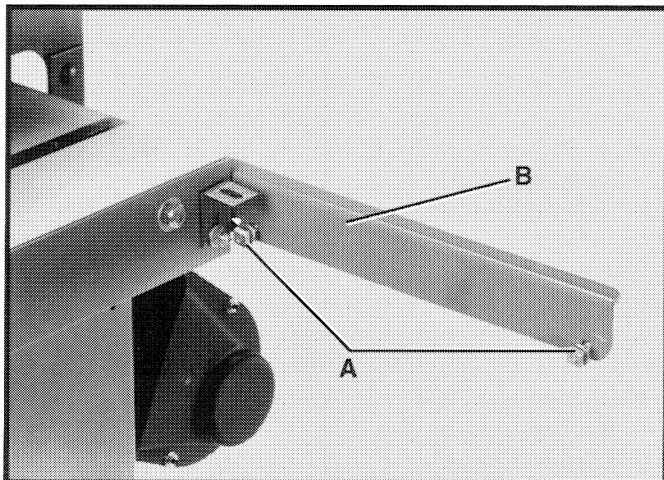
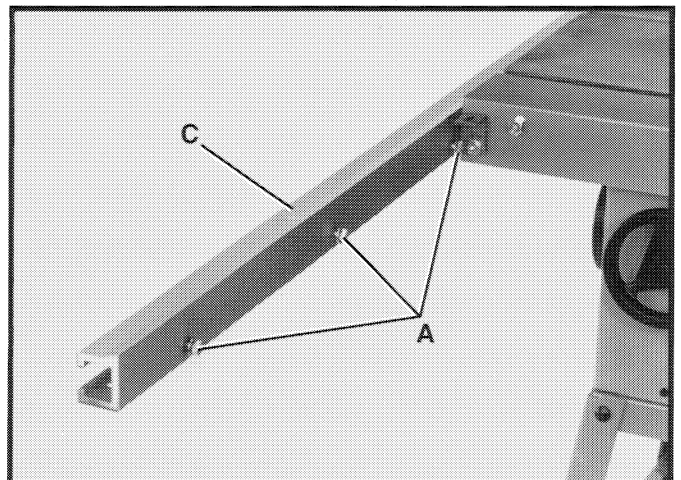
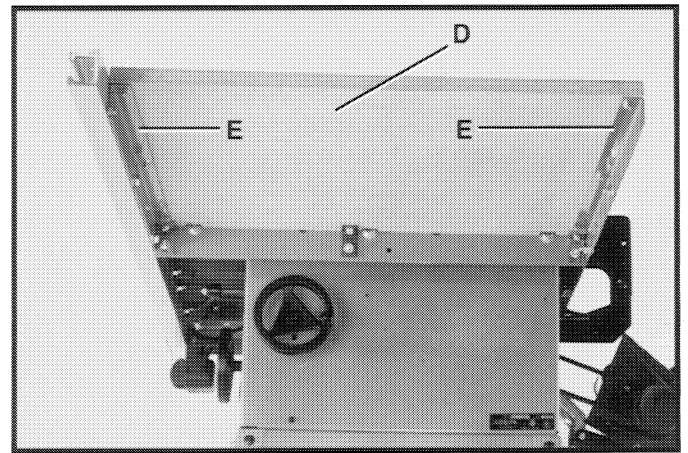
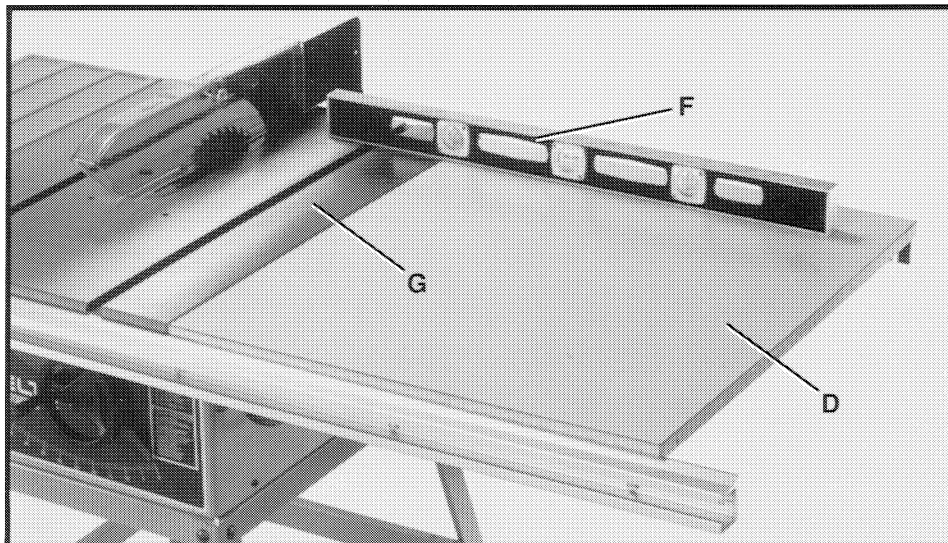

Fig. 38
Fig. 39
Fig. 40
Fig. 41
1. Loosely assemble two 1/4-20 x 3/4" long carriage bolts, 1/4" flat washers and 1/4-20 square nuts (A) Fig. 38, to the rear support (B) as shown.
2. Loosely assemble three 1/4-20 x 5/8" long hex head screws (A) Fig. 39, 1/4" I.D. flat washers and 1/4-20 square nuts, to the front long guide rail (C) as shown. Square nuts should be inside channel of guide rail (C).
3. Place table (D) Fig. 40, with front and rear table supports (E) between rear support (B) Fig. 38, and front guide rail (C) Fig. 39. Slots in table supports (E) Fig. 40, should fit in between flat washer (A) and rear support (B) Fig. 38, and flat washer (A) and guide rail (C) Fig. 39.
4. Using a straight edge (F), as shown in Figs. 41 and 42, adjust table (D) until it is parallel with and on the same plane as saw table (G).
5. When you are certain table (D) Figs. 41 and 42, is level with saw table (G), tighten all table mounting hardware shown underneath table in Fig. 40.